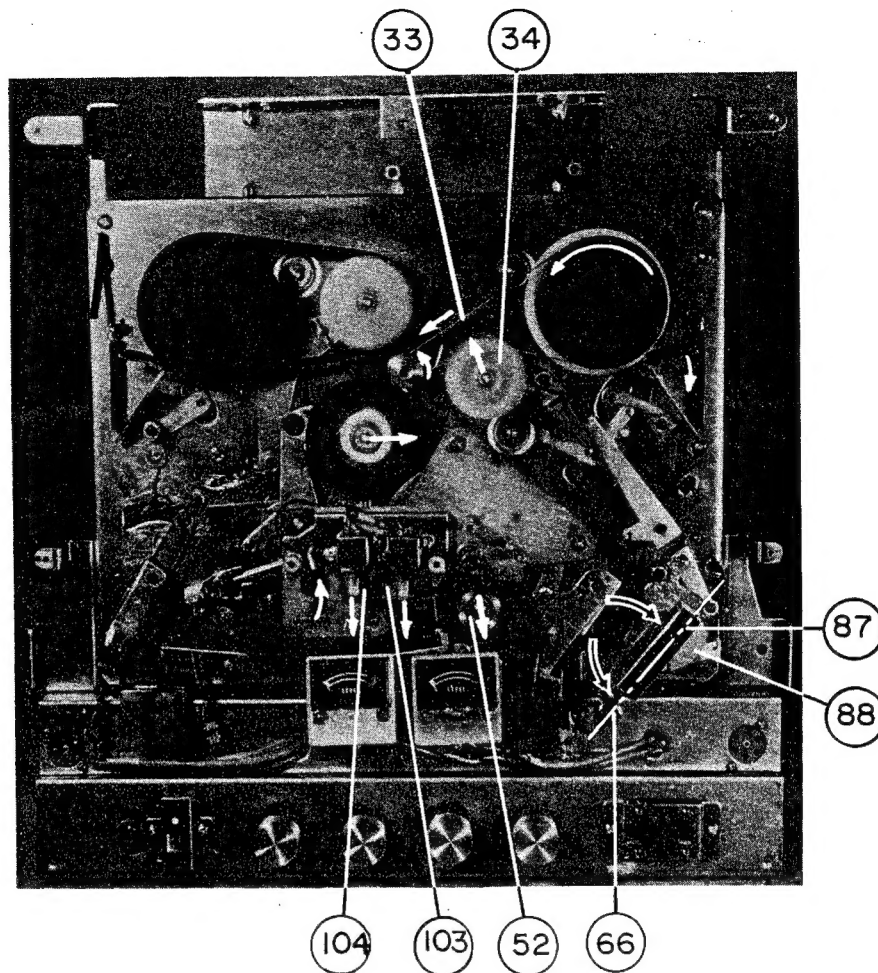

Figure 7
(5) FAST FORWARD (Refer to Figure 7)